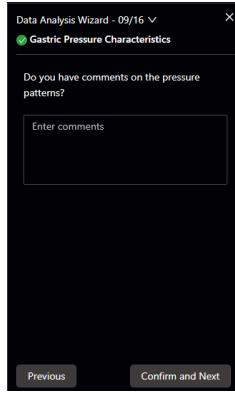

Figure 4-33 Data Analysis – Gastric Pressure Characteristics
10) Gastric Pressure Characteristics (Figure 4-33). Enter comments based on actual conditions, then click [Confirm and Next] to proceed.